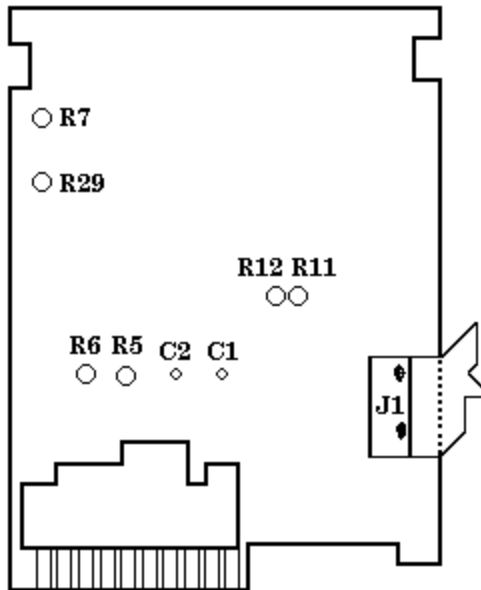

Figure 1. Adjustment locations.
- (1) Adjust R12 (fig. 1) for a TI indication of 190.00 (R).
- (2) Adjust R11 (fig. 1) for a TI indication of 1.9000 (R).
- (3) Adjust R5 (fig. 1) for a TI indication of 190.00 (R).
- (4) Adjust R6 (fig. 1) for a TI indication of 1000.0 (R).
- (1) Press TI **2** range pushbutton and set calibrator for a 1.9 V, 45 Hz output. Adjust R7 (fig.1) for a TI indication of 1.9000 (±5 digits) (R).
- (2) Set calibrator for a 100 mV, 45 Hz output. Adjust R29 (fig. 1) for a TI indication of .1000 (±1 digit) (R).
- (3) Repeat (1) and (2) above until no further adjustments are required.
- (4) Press TI **20** range pushbutton and set calibrator for a 19 V, 10 kHz output. Adjust C1 (fig. 1) for a TI indication of 19.000 (±10 digits) (R).
- (5) Press TI **200** range pushbutton and set calibrator for a 100 V, 10 kHz output. Adjust C2 (fig. 1) for a TI indication of 100.00 (±5 digits) (R).
- (6) Repeat (4) and (5) above until no further adjustments are required.